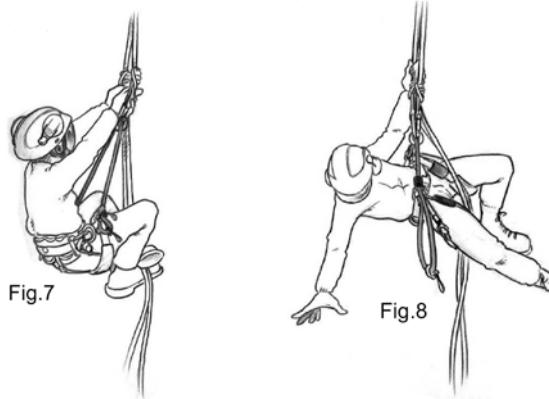
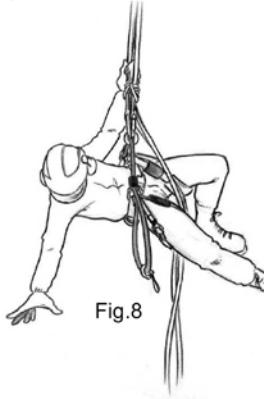
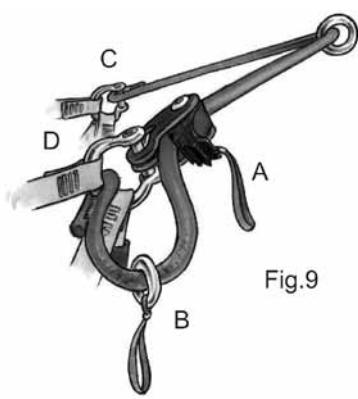

Fig.7
Fig.8
Fig.9
The adjustable central point allows to adjust the length of the central point to the needs of the climber (long position in footlock or in return of branch (Fig 7), and short position for the displacement in the top of the tree (Fig 8)).
6.1 To lengthen the central point (fig. 7): pull at the Ropman's girth strap (Fig 9-A) and sit down smoothly.
6.2 To shorten it (fig. 8): pull at the girth strap located on the closed loop made by the slack of the rope.(Fig 9-B)
- 1.1 Connect the adjustable central point to the shackle on the right or on the left, on the side of the sewed buckle (Fig 9-C). Refer to steps 1.1 to 1.5.
- 1.2 On the opposite side, connect the sewed buckle and the Ropman to the other shackle. (Fig 9-D)